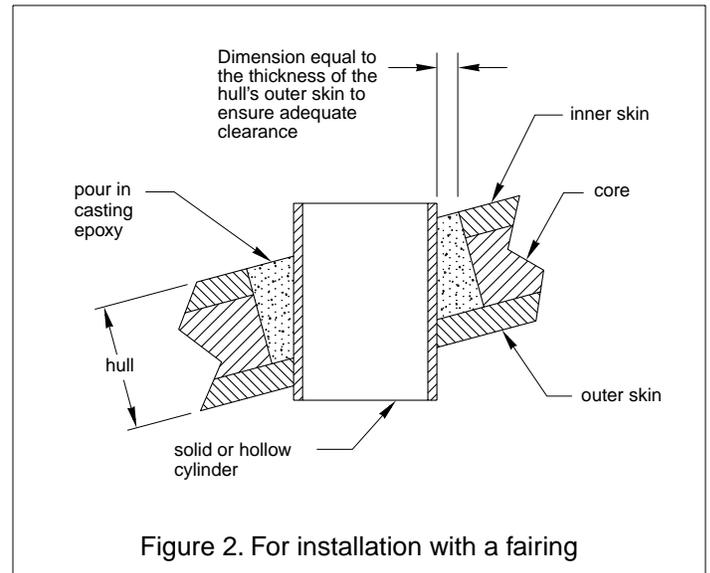

Figure 2. For installation with a fairing
1. Drill a pilot hole from inside the hull (see Figures 2 and 3). For installations with a fairing, drill perpendicular to the waterline. If there is a rib, strut, or other hull irregularity near the selected mounting location, drill from the outside the vessel.
Alternatively, a hollow or solid cylinder of the correct diameter can be coated with wax and taped in place. Fill the gap between the cylinder and hull with casting epoxy. After the epoxy has set, remove the cylinder (see Figures 2 and 3).